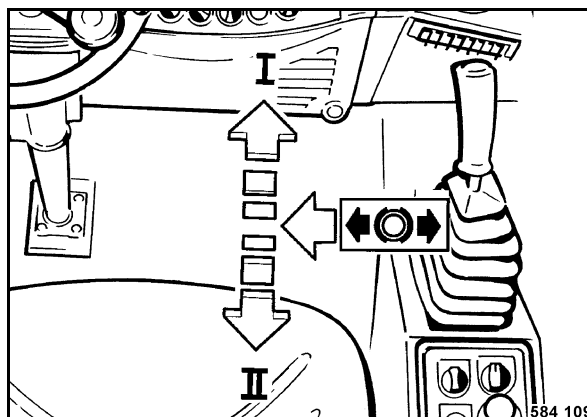

Fig. 55
- Shift the travel lever (Fig. 55) out of braking position to the left to disengage.